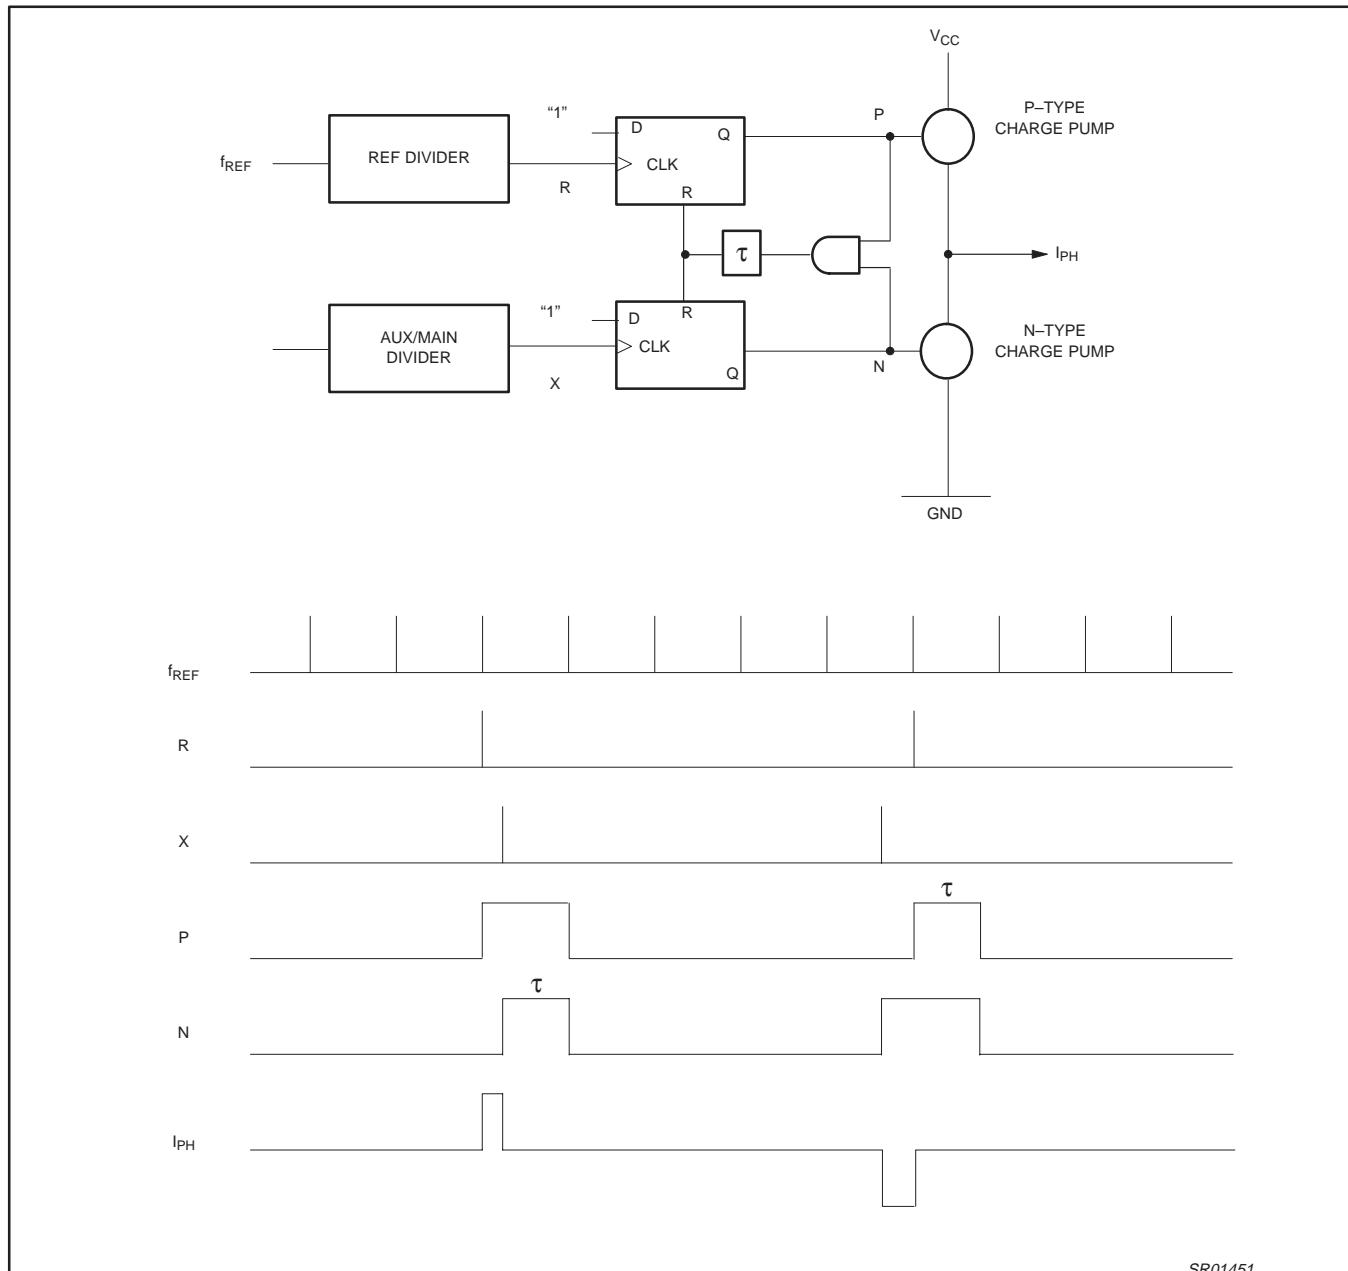

Figure 7. Phase Detector Structure with Timing
1.4 Phase detector (see Figure 7)